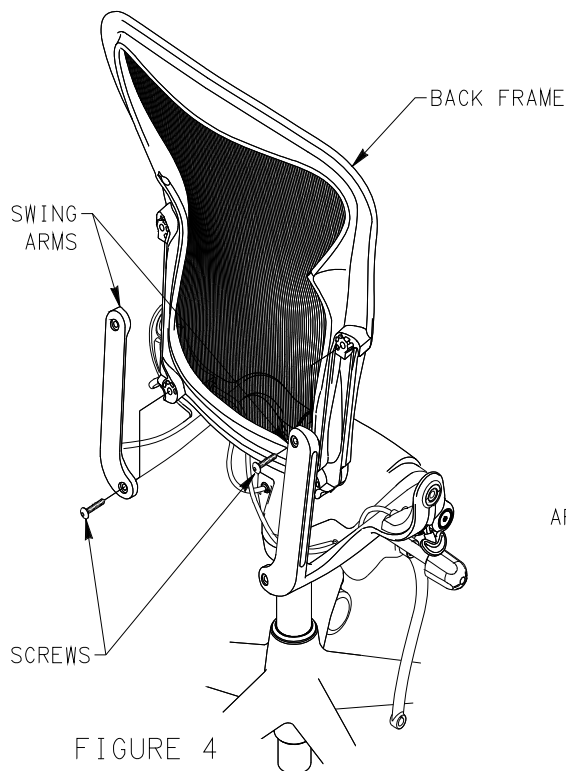

FIGURE 4
16. PLACE BACK FRAME AGAINST SWING ARMS ALIGNING HOLES. SECURE BACK FRAME WITH SCREWS. TIGHTEN AND TORQUE SCREWS TO 70-100 IN-LB. SEE FIGURE 4.